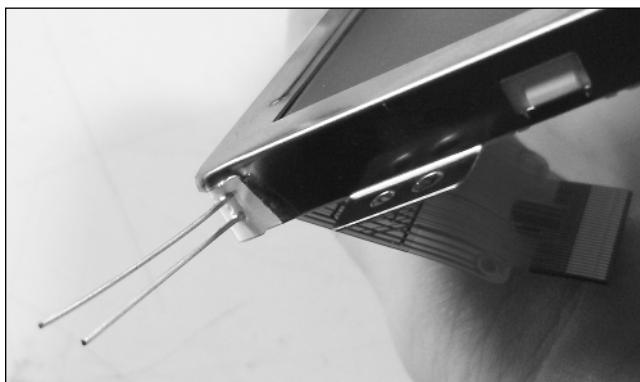

FIGURE 4-26: Where the metal frame may need cutting.
7. Do not force the metal frame back over the LCD. Forcing the metal frame can break the glass. If it doesn't fit quite right, there may be an unlevel LED or too much hot glue. In addition, you may want to make some cuts in the metal frame to keep it farther away from the LED leads, as shown in Figure 4-26.